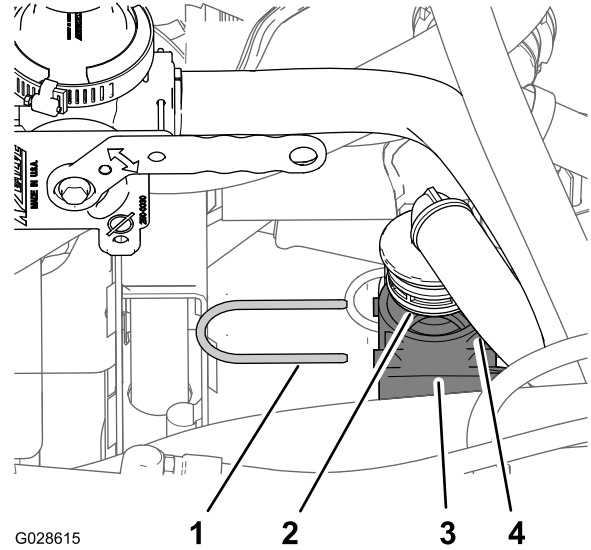

Figure 27
1. Insert the 90° barbed fitting of the eductor bypass hose into the lower T-fitting (Figure 27) that you worked with in step 2 of Preparing to Install the Eductor Valve (page 11).